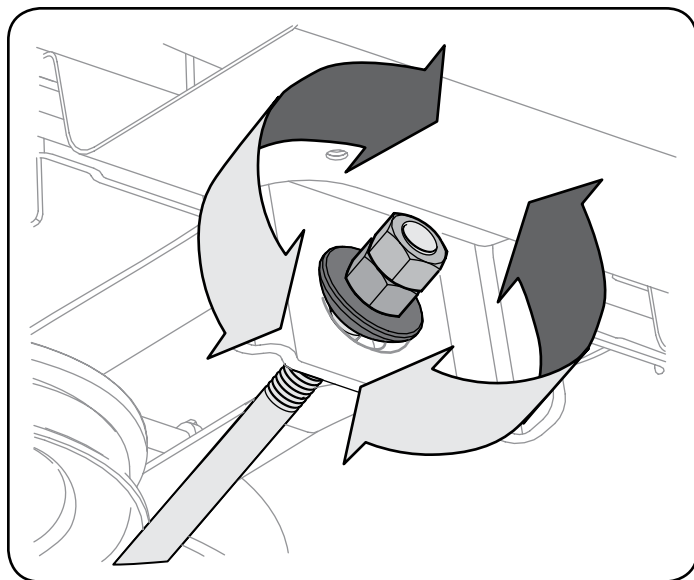

Figure 21
5. To raise the front of the deck, remove the end cap, loosen the outer nut then tighten (thread inward) the nut against the front hanger bracket. See Figure 21. When proper adjustment is achieved, re-tighten the outer nut and replace the end cap.
6. To lower the front of the deck, remove the end cap, loosen the outer nut then loosen (thread outward) the nut, away from the front hanger bracket. See Figure 21. When proper adjustment is achieved, re-tighten the outer nut and replace the end cap.